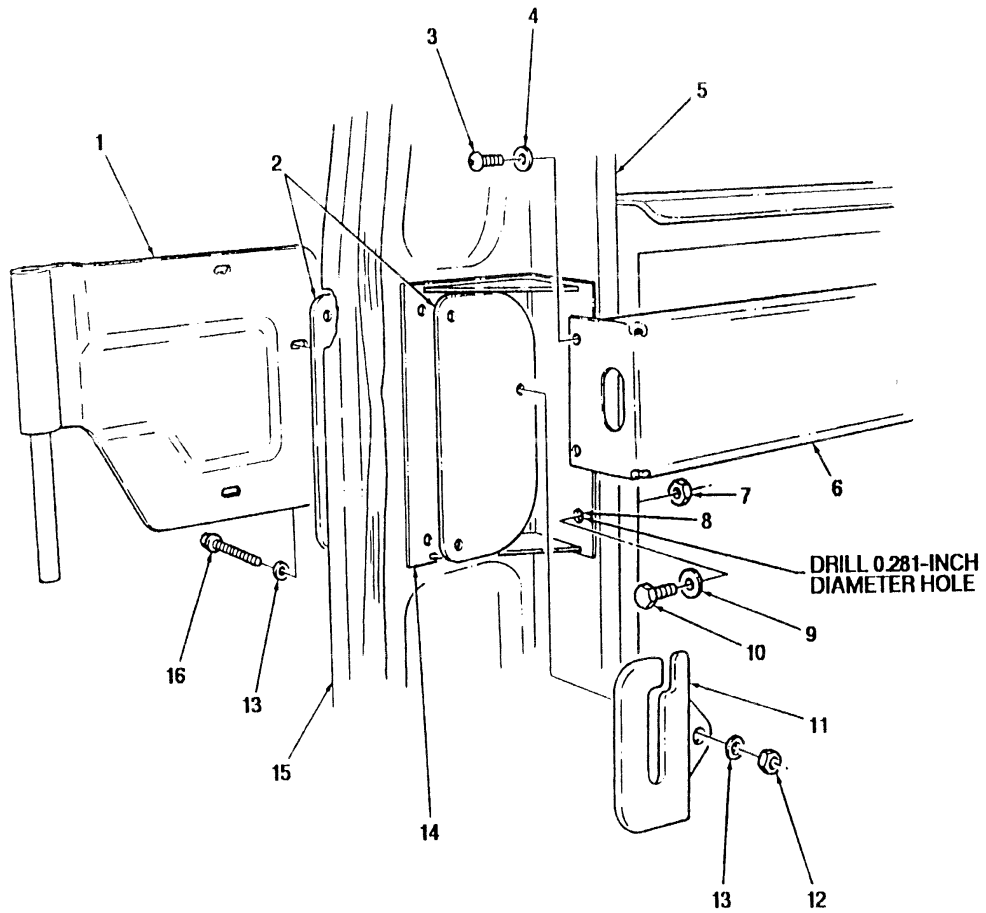

FIGURE 3-10
3. Remove two screws (3) and washers (4) from door latch tube (6) on side rail (5) next to hinge (1). (see figure 3-10)
4. Position door hinge reinforcement bracket (14) between side rail (5) and door latch tube (6) and install two existing screws (3) and washers (4). Do not tighten screws (3).
5. Install door hinge reinforcement bracket (14) to door (15) with three existing screws (16), washers (12), outer and inner shims (2) if removed, door stop bracket (11), three washers (13), and NSN 5310-01-254-4284 locknuts (12).
6. Tighten screws (3) installed in step 4.
7. Drill a 0.281-inch diameter hole in side rail (5) using the existing hole (8) in reinforcement bracket (14) as a guide.
8. Secure door hinge reinforcement bracket (14) to side rail (5) with NSN 5305-00-267-8953 screw (10), NSN 5310-00-809-4058 washer (9), and NSN 5310-01-254-4284 locknut (7).